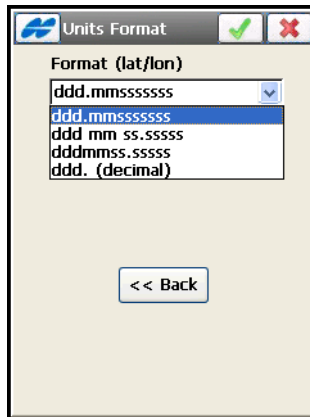

Figure 5-24. Units Format
- **Next** – opens the *Units Format* screen if a type of geodetic coordinate is selected (Figure 5-24 on page 5-21).
**On the Units Format** screen (Figure 5-24), select the format you want to represent the degrees of Latitude and Longitude in the imported data from the drop-down list.